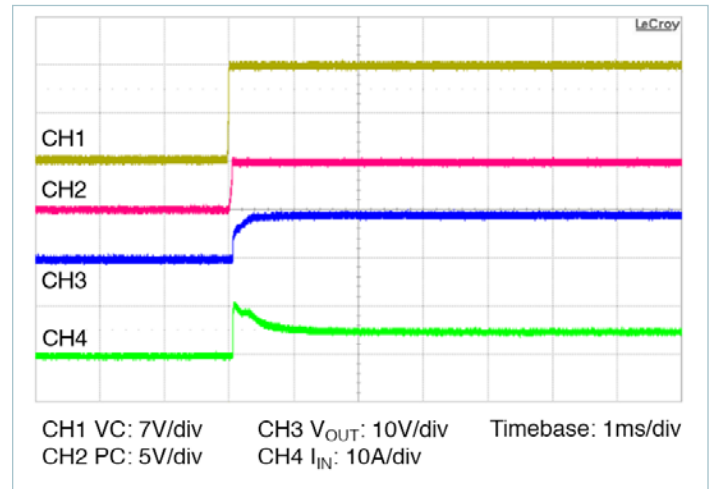

Figure 14 — Start up from application of V_C ; V_{IN} pre-applied $C_{OUT} = 1600\mu\text{F}$
- **Standalone operation (VC applied after V_{IN}):** In this case the VTM output will begin to rise upon the application of the VC voltage (See Figure 14). The Adaptive Soft Start Circuit may vary the output rate of rise in order to limit the inrush current to its maximum level. When starting into high capacitance, or a short, the output current will be limited for a maximum of 1200μs. After this period, the Adaptive Soft Start Circuit will time out and the VTM module may shut down. No restart will be attempted until VC is re-applied or PC is toggled. The maximum output capacitance is limited to 1600μF in this mode of operation to ensure a successful start.